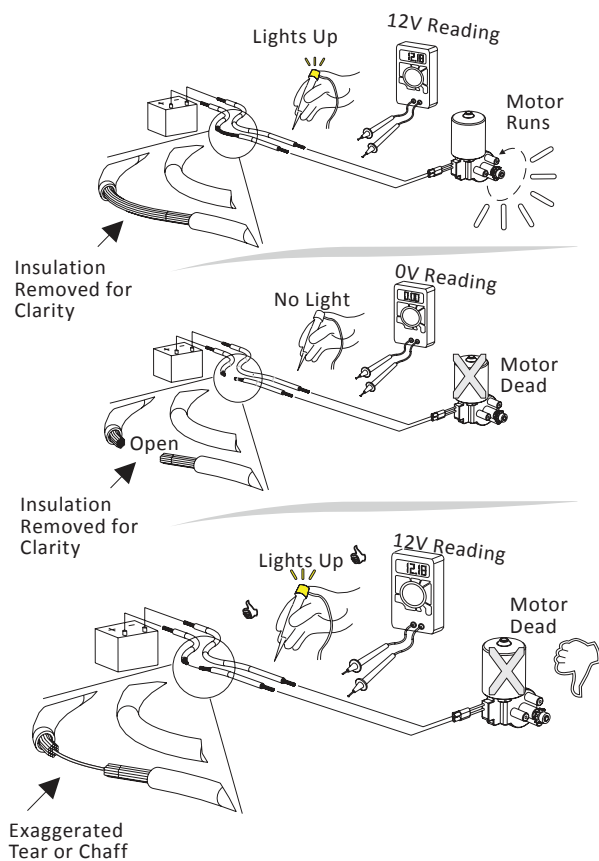

Figure 9-1
1. Be careful when troubleshooting with the voltage meter. The instruments will detect voltage but may not indicate a tear or poor connection in the wiring. An instrument may give a false reading since it will only indicate that there is some wire connection, but this wire connection may not necessarily be sufficient. **See Figure 9-1.**